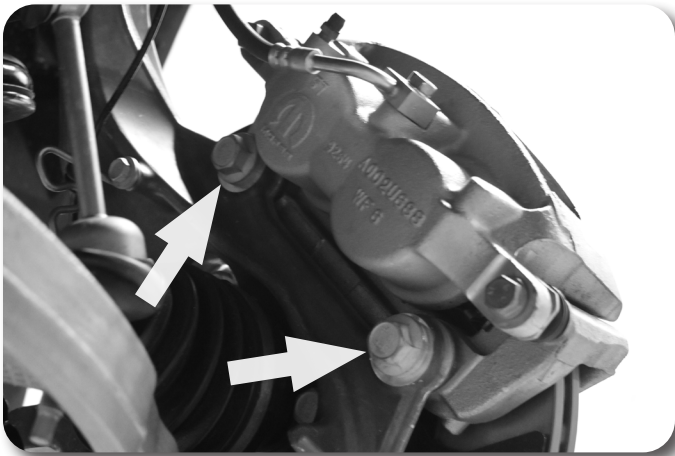

Figure 6
- Remove the brake caliper bracket to knuckle bolts Fig. 6 and pull the caliper free from the steering knuckle and rotor. Hang the caliper securely out of the way. Retain caliper mounting hardware. .